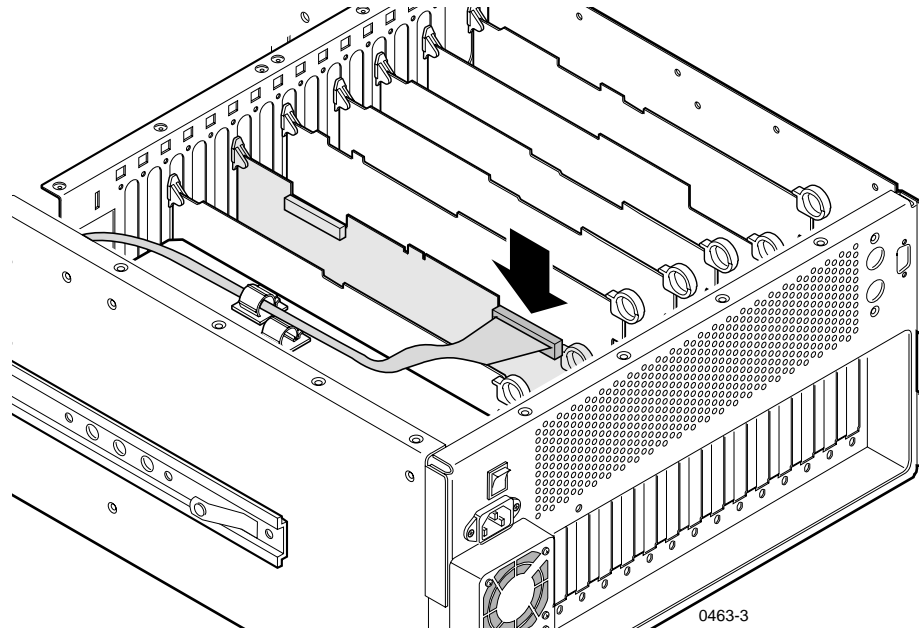

**Figure 7. Installing the board mounting bracket screws**
2. Using a Torx tool with a T15 tip, install the two mounting bracket screws: one that anchors the top of the bracket from inside the chassis (see ❶ in Figure 7) and one that anchors the bottom of the bracket from the outside rear panel of the chassis (see ❷ in Figure 7).